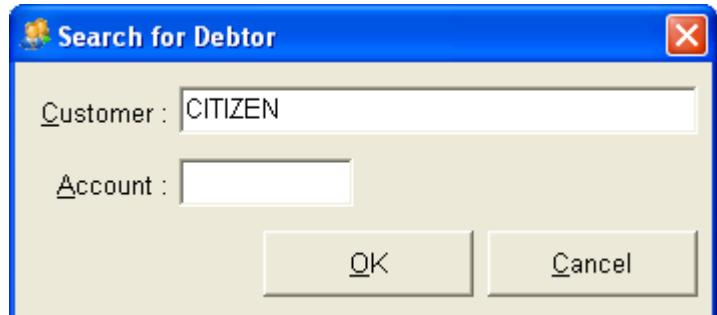

Figure 319
2. A Search for Debtor screen will appear, Key in the debtors name (as shown in Figure 319).